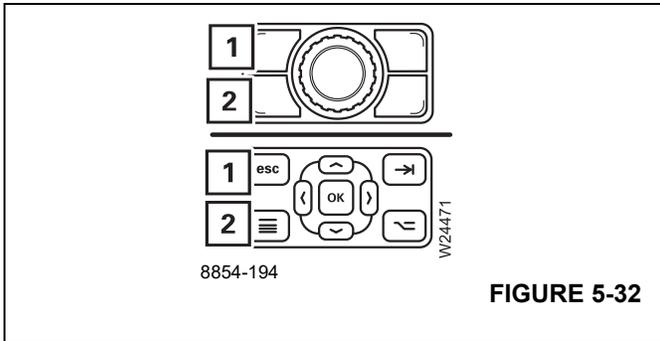
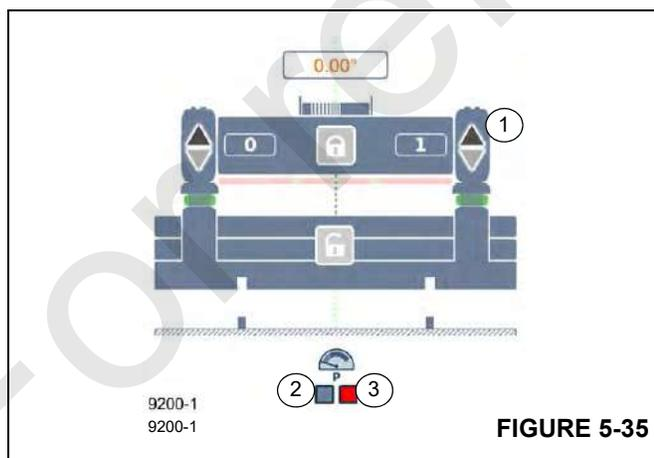

FIGURE 5-32
FIGURE 5-35
If necessary, open the main menu and press the button (1), (Figure 5-32) once.
Use the UP arrows (Figure 5-32) to fully raise the cylinders. This is needed if the cylinders were operated manually and not fully raised. Also refer to (Figure 5-35).
When the symbol (3), (Figure 5-35) is red, you must pre-tension the counterweight.
- Select and confirm the symbol (1), (Figure 5-35) until the symbol (2), (Figure 5-35) becomes green.